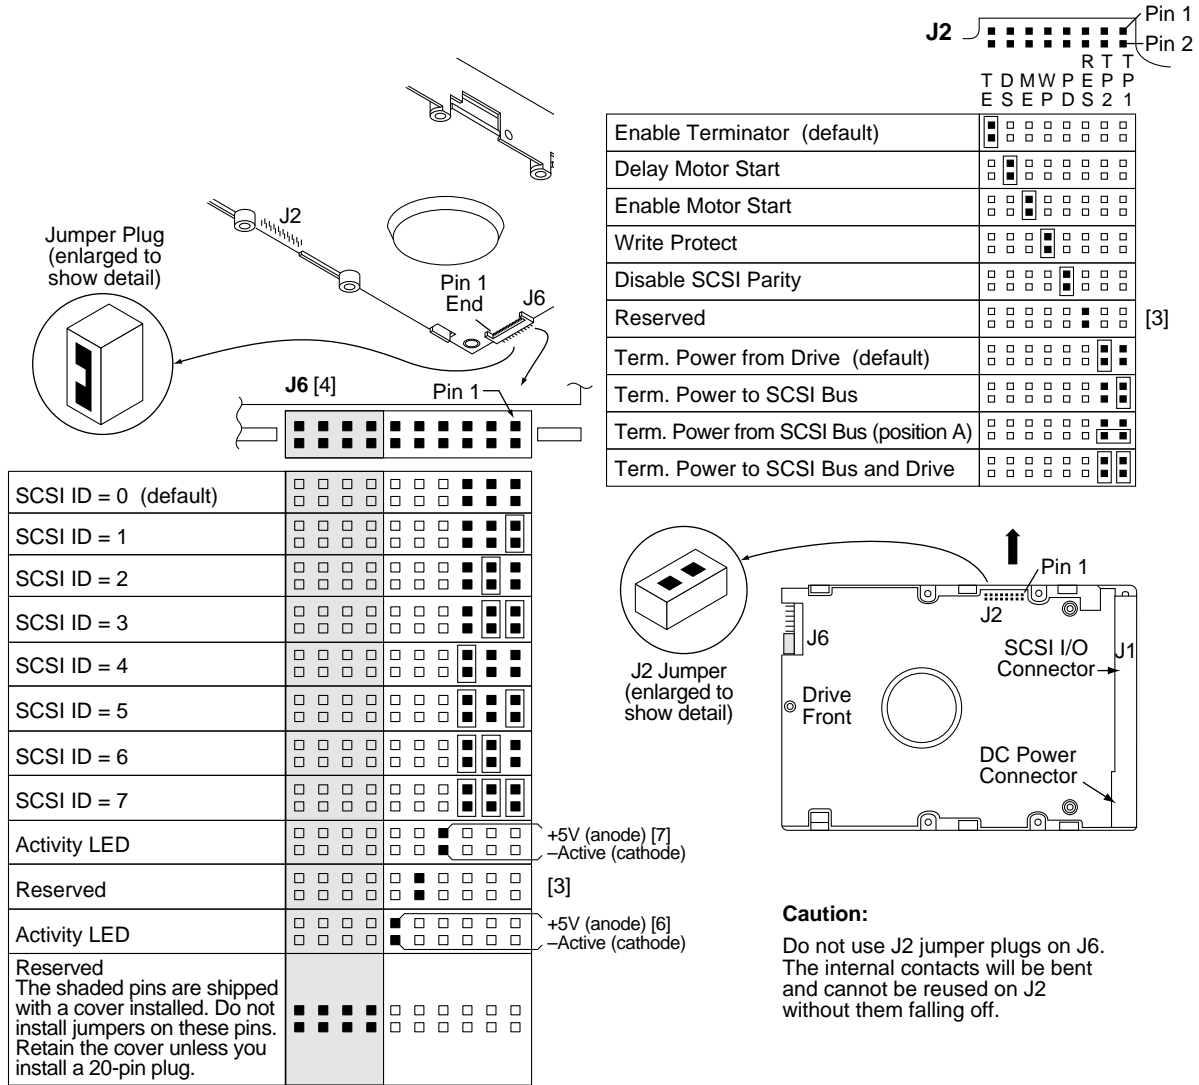

Figure 9. Model "N" option select jumper connectors
For option jumper locations and definitions refer to Figures 9, 10, and 11. Drive default mode parameters are not normally needed for installation. Refer to Section 9.3.2 for default mode parameters if they are needed.
Figures 9, 10, and 11 show views of the drive ID select jumper connectors and the option select jumper connector for all models. Figure 10 shows a rear view of model drives for the purpose of showing J1-auxiliary of the drive. Both J5 and J6 have pins for selecting drive ID and for connecting the remote LED cable. Only one or the other should be used, although using both at the same time would not damage the drive. The notes following the figures describe the functions of the various jumper positions on the connectors J2, J5, and J6. Suggested part number for the jumpers used on J2 is Molex 52747-0211 (Seagate P/N 77679052). A bag with the two jumper plug types is shipped with the standard OEM drives.
Notes for Figures 9, 10, and 11 are in Section 8.1.1.
8.1.1 Notes for Figures 9, 10, and 11.